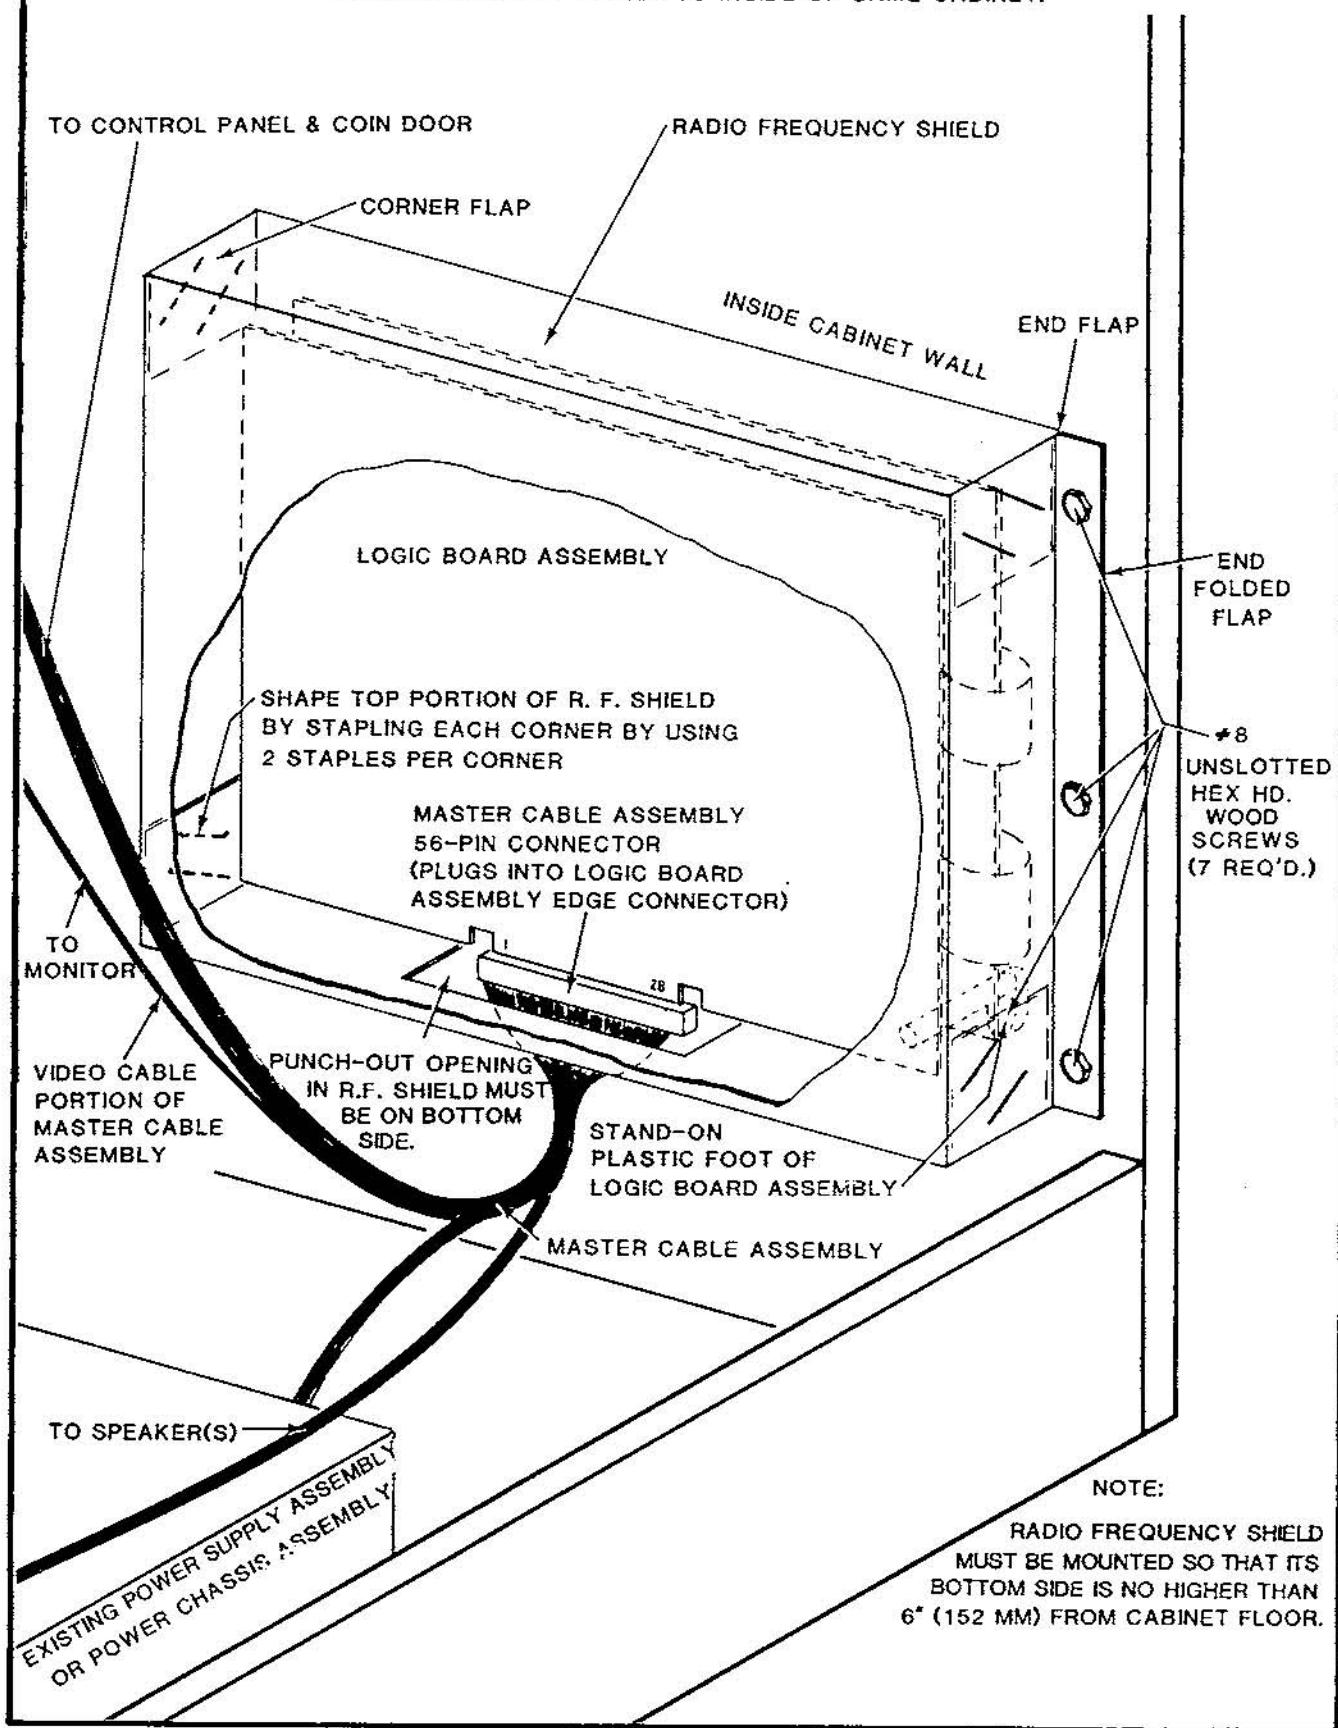

FIGURE 3. FIELD KIT ASSEMBLED - REAR CABINET CLOSE-UP VIEW
4. To install the new Master Cable Assembly, perform the following procedures. For additional information, see Figure 3 on page 17 and the Wiring Chart on page 20.
E. If you are re-using the existing cable connectors for the Master Cable Assembly wiring to the Control Panel, join the connectors together. If not, solder the dressed bare wire ends directly to the Control Panel Assembly locations. Refer to the Wiring Chart to locate where the wires are to be soldered. Ensure that one (1)